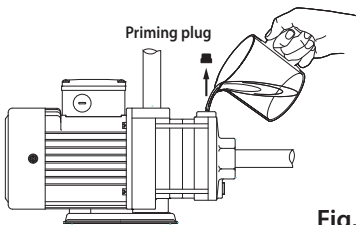

Fig.5
3.1.2.2 Remove the priming plug, fig. 5.